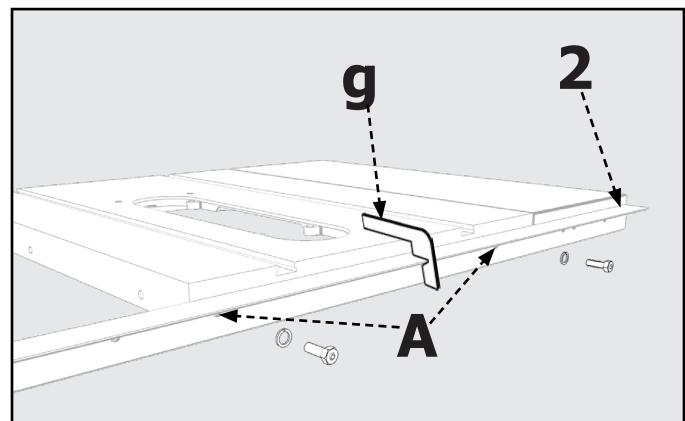

FIGURE 4
- With the edge of the Rear Guide Rail (2) near the edge of the Left Extension Wing, align the Two Holes in the table with the Two Holes in the Rear Guide Rail, as indicated at location "A" in **Figure 4**.